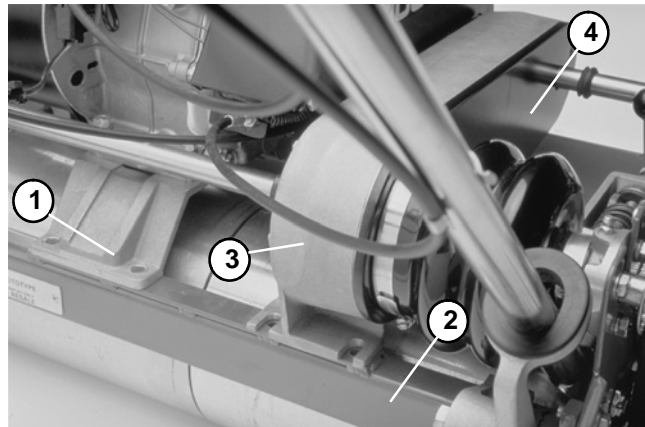

Figure 50
3. From the mower rear, precede as follows (Fig. 50):
5. Secure countershaft housing to the frame with the four cap screws, lock washers, and flat washers (Fig. 50).